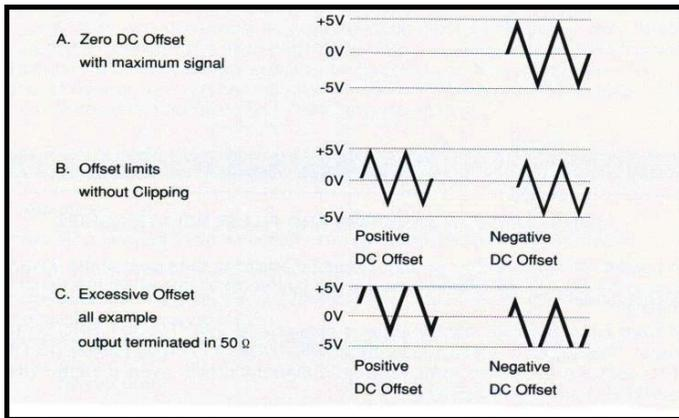

Fig. 6-2: Use of DC Offset Control
- The DC Offset control can provide over ± 10 Volts open-circuited, or ± 5 Volts into 50 Ω load. Remember that the combined signal swing plus DC offset is also limited to ± 10 V open-circuited, or ± 5 % into 50 Ω . Clipping occurs slightly next page these levels. Fig. 6-2 illustrates the various operating conditions encountered when using DC offset. If the desired output signal is large or if a large DC offset is used, an oscilloscope should be used to make sure that the desired combination is obtained without clipping. Keeping the amplitude control in the lower half of its adjustment range reduces the probability of clipping.